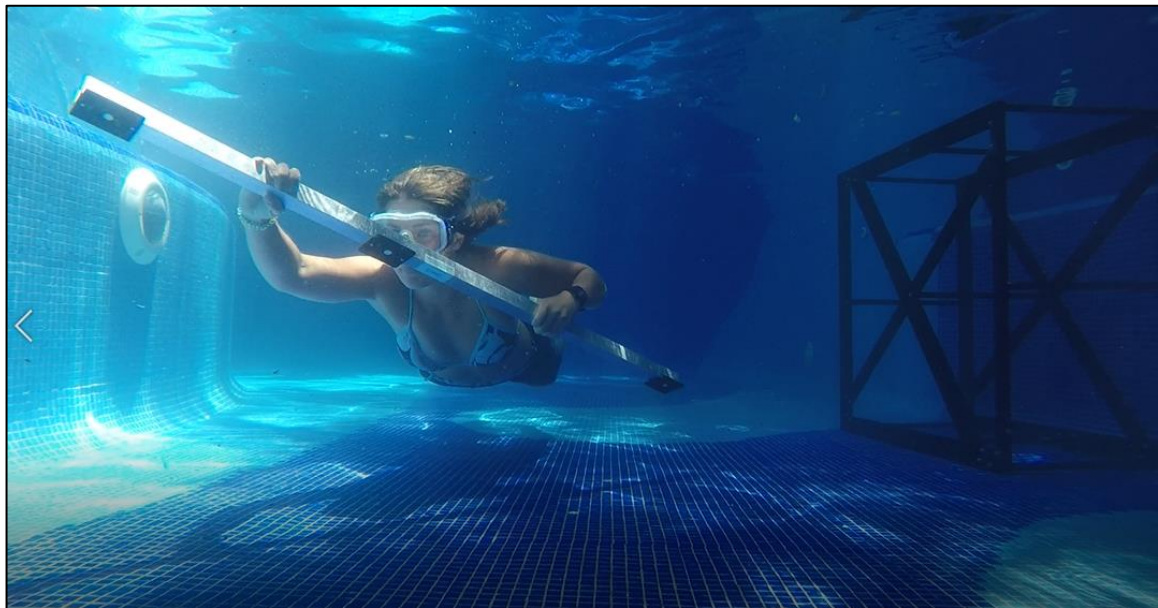

Figure 2. Screenshot from a 'distance bar' video. The points along the length of bar are presented to the camera from a range of distances and angles.
- Diver 2 picks up and moves the distance bar, presenting the points to the cameras from multiple angles and from multiple distances. It may be useful to begin at some distance, and swim towards the cameras while holding the distance bar and changing the angles (**Figure 2**).